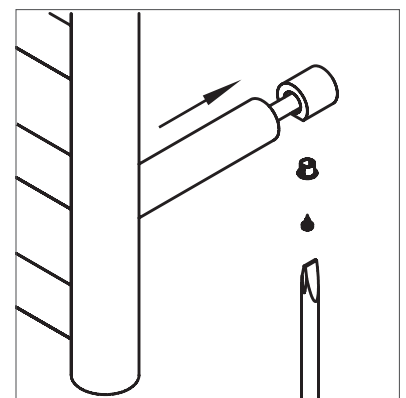

Fig 8.0
- The fixing screw for the cable leg needs to tap into the nylon plug. see Fig 8.0